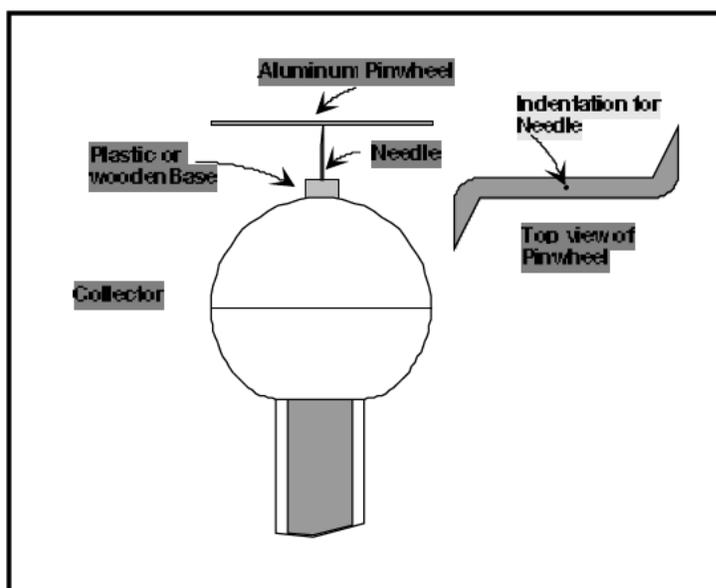

Fig. 38 - Electric Spinner
7. **Electric Spinner:** A pinwheel made from lightweight aluminum will spin slowly when placed atop the Collector (Fig. 38). Theoretically, the sharp points form ions, which are repelled. The reaction causes the spinner to rotate.